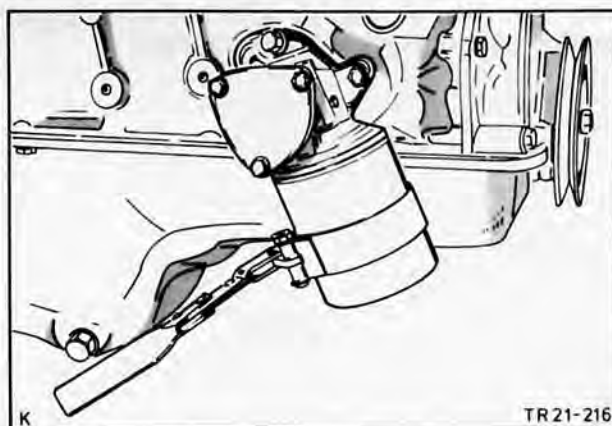

Fig. 30. Remove oil filter
3. Drain engine oil and remove oil filter using oil filter wrench, Fig. 30.